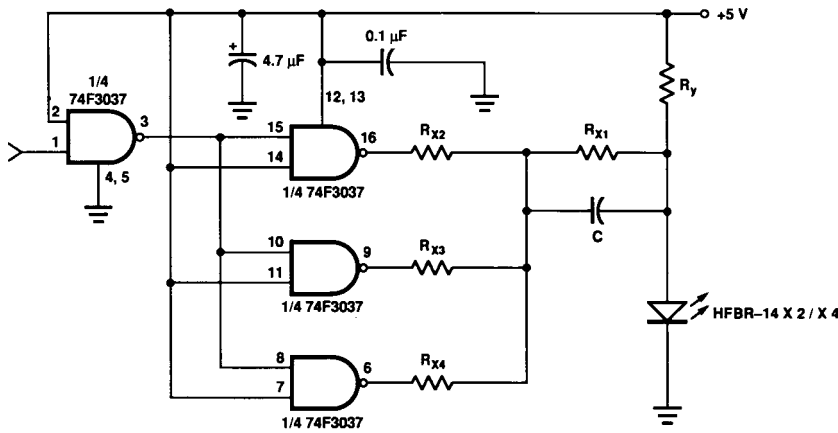

Figure 11. Recommended drive circuit.
- Pre-bias is recommended if signal rate  $>10\text{ MBd}$ , see recommended drive circuit in Figure 11.
The circuit used to supply current to the LED transmitter can significantly influence the optical switching characteristics of the LED. The optical rise/fall times and propagation delays can be improved by using the appropriate circuit techniques. The LED drive circuit shown in Figure 11 uses frequency com-